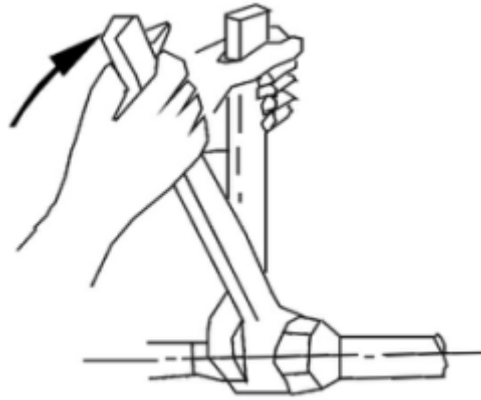

Figure 6
- When connecting the water inlet and outlet pipes, use two pipe wrenches to adjust the two connecting parts of the pipes; make sure the water inlet and outlet pipes do not twist (see Figure 6).